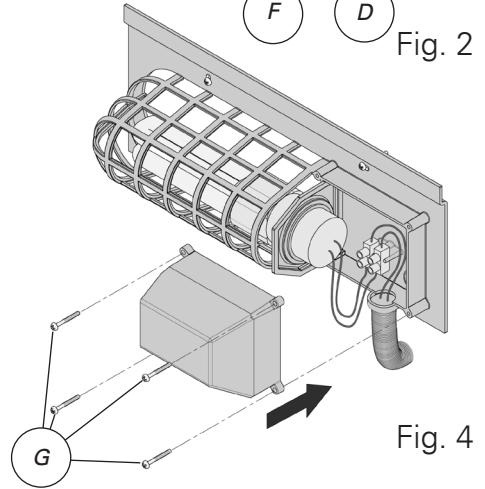

Fig. 4
7. Richiudere la calotta con le 4 viti **(G)** (fig. 4).
7. Close the cover by means of the 4 screws **(G)** (fig. 4).